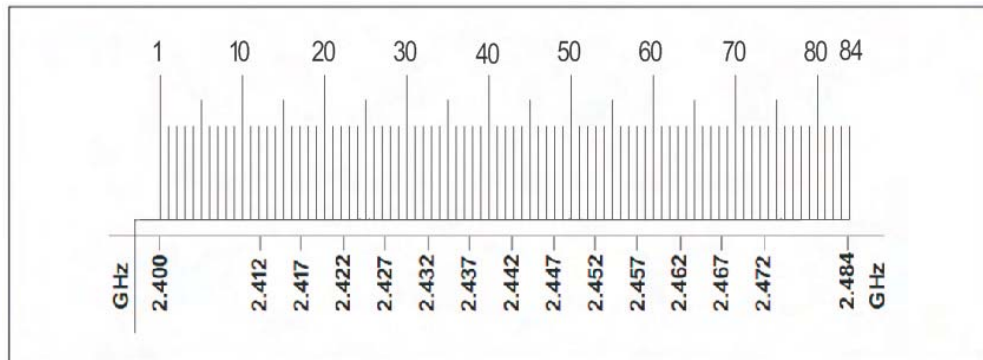

Figure 1.3 Wireless channel of the GONSIN30000 system
In GONSIN30000 system, the frequency band 2.4GHz is divided into 85 channels; where, channel (0) and channels 80~84 are reserved for communication of fixed purpose. Channels 1~79 are switchable. Refer to Figure 1.3.